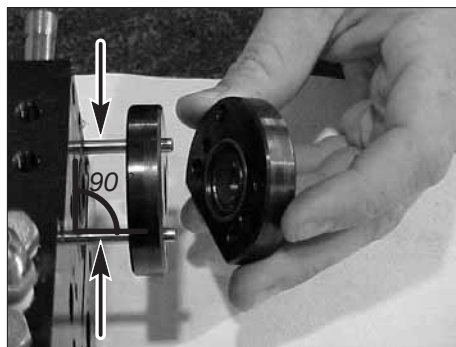
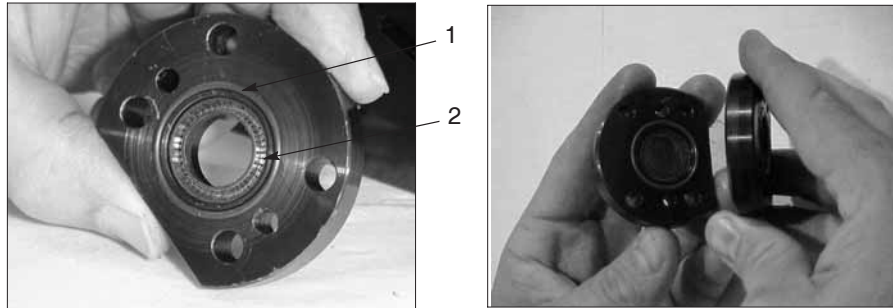

Figure 7-37 Installing the new end-slice dowel pins
Figure 7-38 Pump packing assembly O-rings and spring seals
10. See Figure 7-37. Insert the new end-slice dowel pins supplied in the service kit. This may require light tapping with a hammer. Ensure that the pins remain straight during insertion. When correctly installed, the pins should be perpendicular to the slice.
11. See Figure 7-38. After replacing the pump packing assembly O-rings and spring seals with the new ones in the service kit, install the pump packing assembly halves on the applicator by sliding them over the dowel pins (Figure 7-37) and then tightening them with an M5 hex wrench until they are snug.